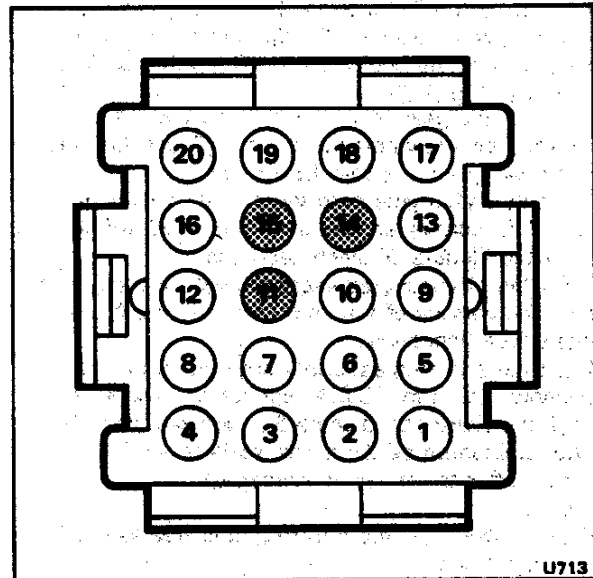

Fig. T27 20-way plug connections
21. Check the inside edges of the conduit elbow (tunnel connection) are free of burrs. Feed the loom through the conduit and elbow; push the conduit over the cable exit connection of the casing and the conduit elbow, secure both ends with spring clips. Remove the tape from the cable ends; connect the cables into the 20-way plug (see Fig. T27).